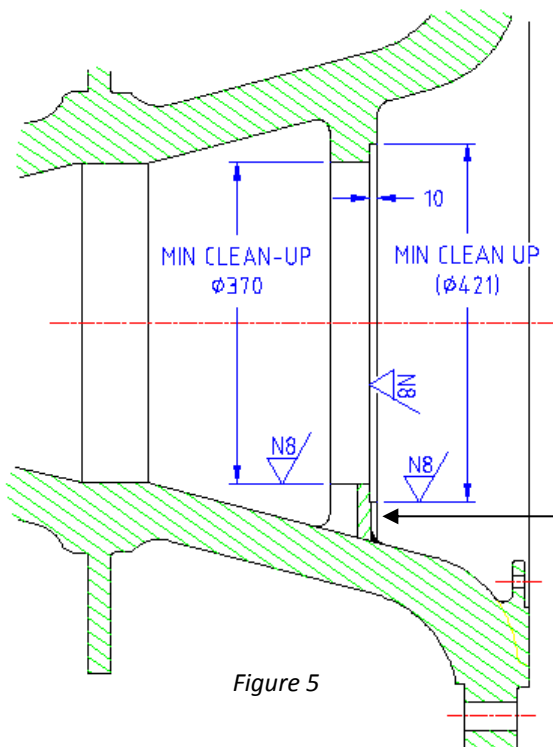

Figure 5
4. Position block, so it sits slightly raised from the machined face (see Figure 5).
13. Re-machine spindle to the dimensions shown in Figure 5.